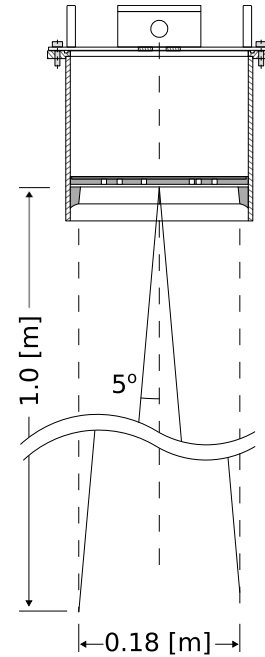

Figure 1.1: The 5 [deg] half top angle of the F08 antenna beam.
- It is advised to choose a mounting position such that the WaveGuide radar beam is free of large reflecting obstacles (the beam of the F08 antenna has a 5 [deg] half top angle as shown in Fig. 1.1). The minimum horizontal distance between the radar and any obstacle in the beam's path should be at least 10% of the vertical distance between the radar and the obstacle. This does not only include horizontal objects in the beam's path but also vertical structures.